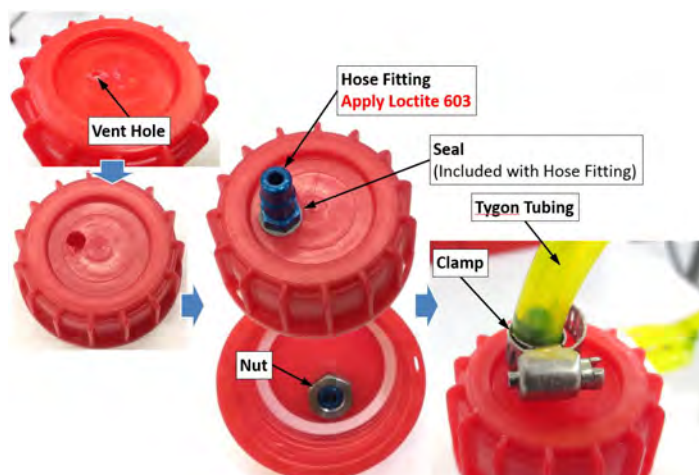

FIGURE 16-39
- b. Apply LOCTITE® 603 to the threads of a 5058K34 hose fitting. Insert the hose fitting with its seal into the vent hole as shown in Figure 16-39.